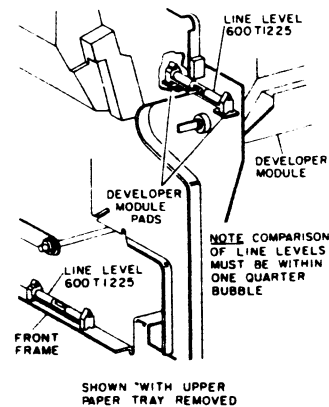

Figure 2. Comparison of Levels
3. USE A LINE LEVEL 600T1225 ON FRONT FRAME AND ON DEVELOPER MODULE (FIGURE 2).